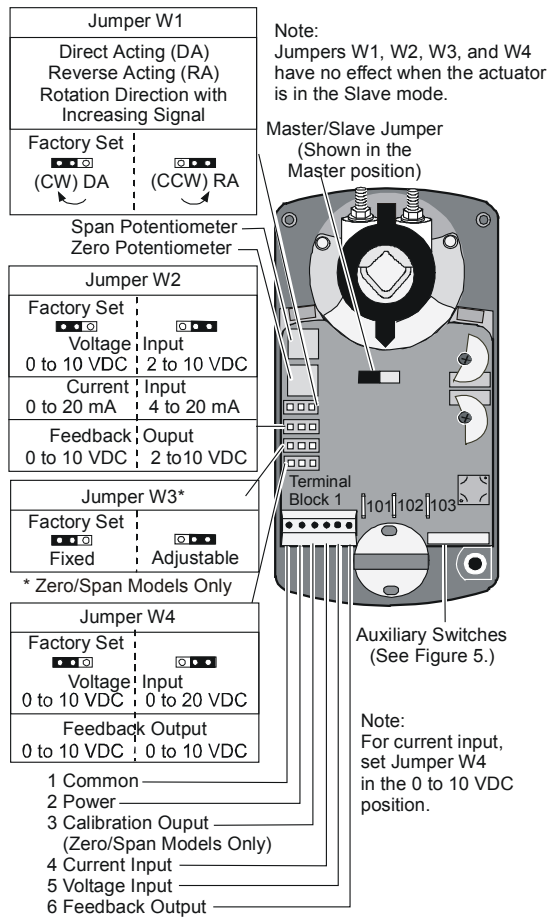

Figure 8: Settings on Modulating Models
2. Move Jumper W1 from the factory-set DA position to the RA position. (See Figure 8.)
D-Series models come factory set with the Master/Slave Jumper in the master position and have no additional jumpers. Modulating models come factory set with Jumper W1 in the DA position. Additional jumpers factory set as follows: Jumper W2 is in the 0 to 10 VDC or 0 to 20 mA position, and Jumper W4 is in the 0 to 10 VDC position. (See Figure 8.)